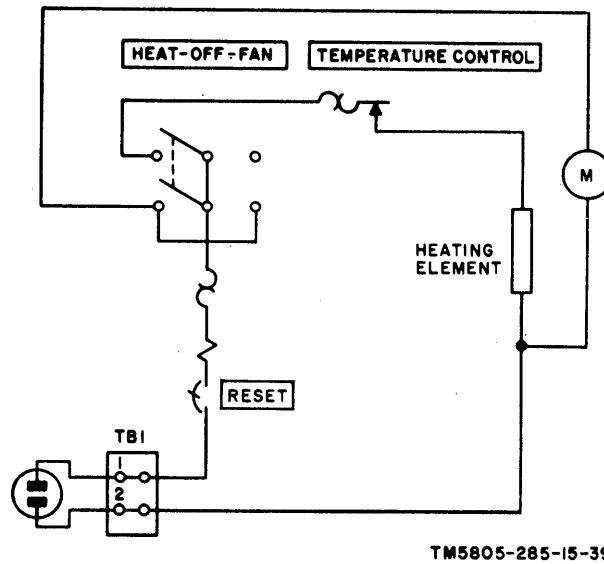

Figure 35. Electric heater, schematic diagram.
- (1) Loosen the screws that secure the power cord leads to terminal board TB1 (fig. 35).
- (2) Pull the power cord out of the clamp in the backplate.
- (3) Insert a new power cord through the clamp in the backplate.
- (4) Connect the leads to terminal board TB1.